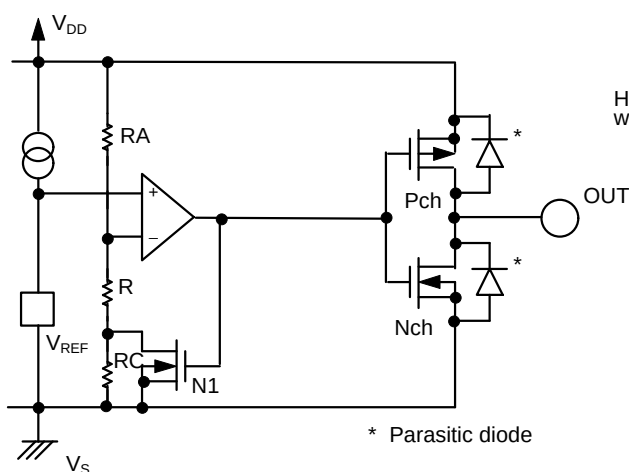

Figure 9
- (1) When power supply voltage V_{DD} is greater than the release voltage $+V_{DET}$, the Nch transistor is OFF and the Pch transistor ON, causing V_{DD} (high) to appear at the output. With the Nch transistor N1 of Figure 9 OFF, the comparator input voltage is $(RB+RC)/(RA+RB+RC) \times V_{DD}$.
- (2) When power supply voltage V_{DD} goes below $+V_{DET}$, the output maintains the power supply voltage level, as long as V_{DD} remains above the detection voltage $-V_{DET}$. When V_{DD} does fall below $-V_{DET}$ (A in Figure 10), the Nch transistor goes ON, the Pch transistor goes OFF, and V_{SS} appears at the output. With the Nch transistor N1 of Figure 9 ON, the comparator input voltage is $RB/(RA+RB) \times V_{DD}$.
- (3) When V_{DD} falls below the minimum operating voltage, the output becomes undefined. However, output will revert to V_{DD} if a pull-up has been employed.
- (4) V_{SS} will again be output when V_{DD} rises above the minimum operating voltage. V_{SS} will continue to be output even when V_{DD} surpasses $-V_{DET}$, as long as it does not exceed the release voltage $+V_{DET}$.